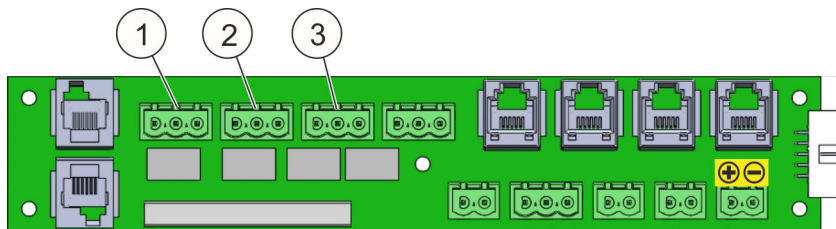

Fig. 19: Potential-free contacts
- Use the floating contacts (Fig. 19/1 to 3) for the device shutdown that is to be realized by the operator.